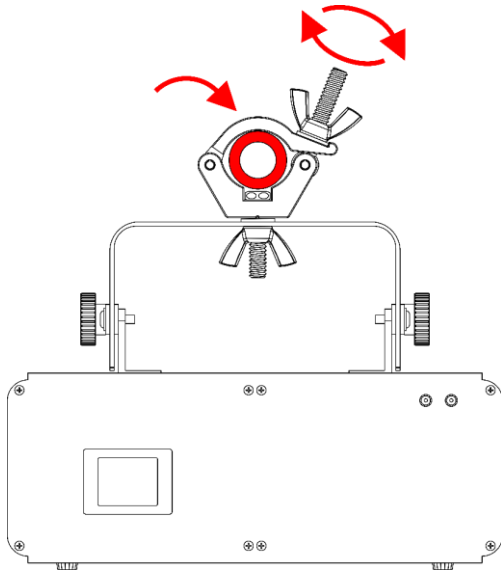
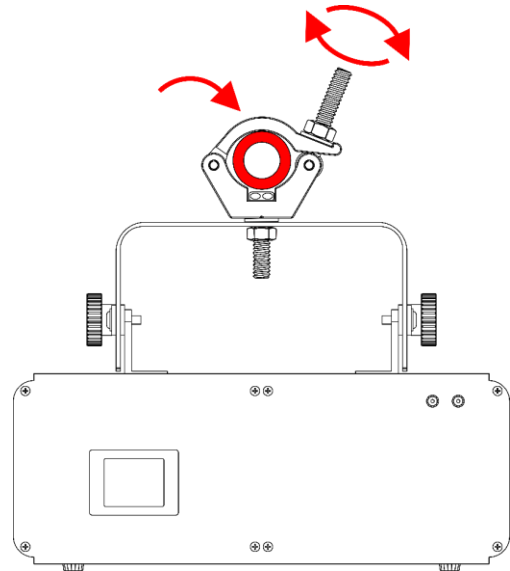

Fig. 07
Fig. 08
07) Put the device, with the installed load, around a tube (Ø 32 mm) and close the **lock (11)**. See Fig. 07 or Fig. 08.
08) Put the **hex nut (01)** (fixed installation, Fig. 08) or the **wing nut (02)** (temporary installation, Fig. 07) on the **hex bolt (03)** and turn it clockwise, to tighten the device around the tube.